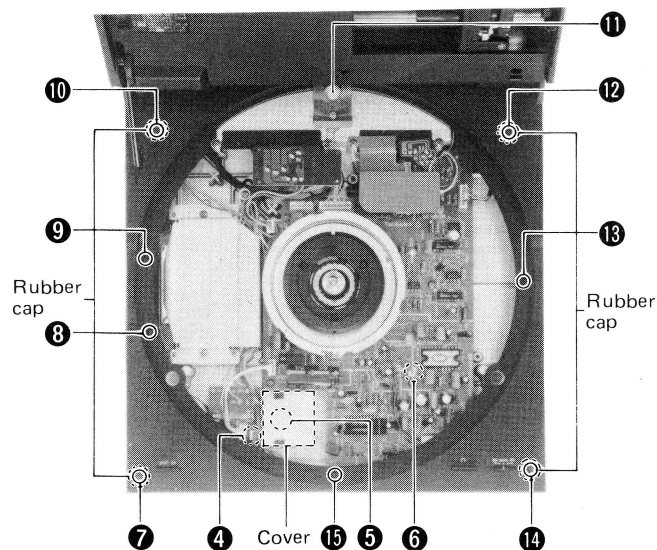

Fig. 7
3. Remove the cover of the power source P.C.B. and detach the connectors ④ and ⑤ from the connector ⑥ of the drive P.C.B. (See Fig. 7)
4. Remove the 4 rubber caps of the body cover; remove the body cover setscrews ⑦ ~ ⑮ then the body cover can be removed. (See Fig. 7)